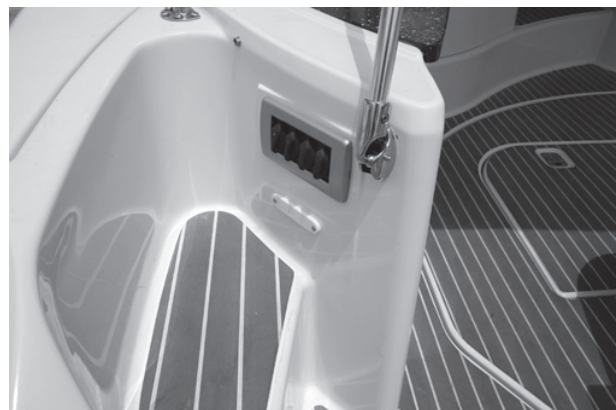

Figure O9: Bow Support Pole Deck Mount
- 3) Attach the support poles to the respective port and starboard deck mounts located at the transom. Slide the support poles down into the deck mount and secure with the pin and lanyard. See Figure O9.
- 1) Lower the adjustable supports using the button-release. The button-release lets you slide the inner and outer tube to longer or shorter settings for a snug or loose fit. Doing so may make attaching the sides & aft canvas to the boat easier. See Figure O9.